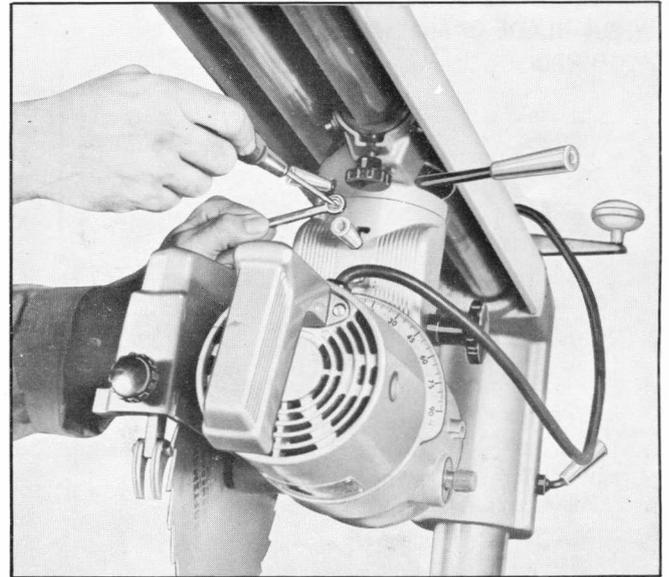
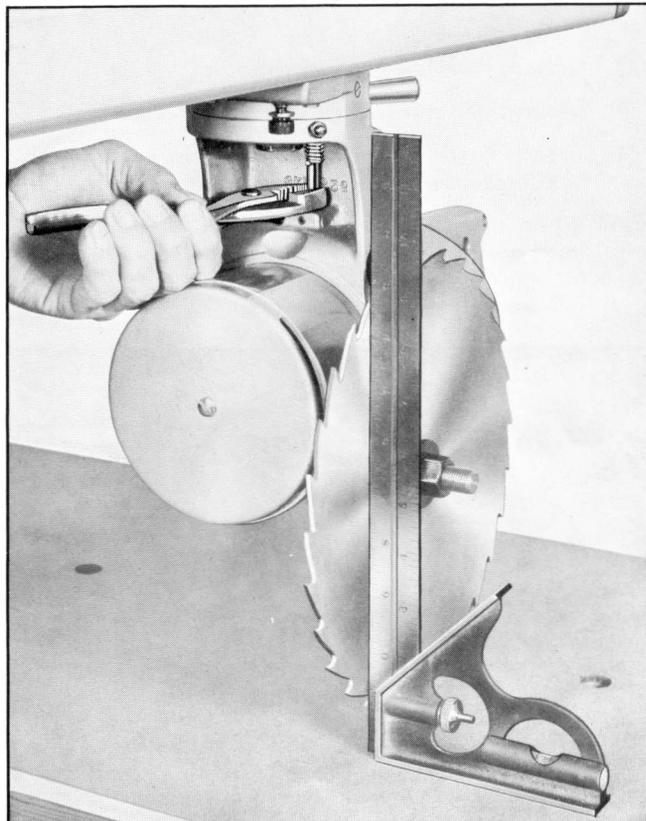

Fig. 19
Fig. 22
2. The one screw in fig. 19, is used. Unlock hex nut in fig. 19.
An alternate method for adjusting for heeling is shown in fig. 20. Place the square against the fence and hold against the saw blade. Make sure the edge of square is not touching the tooth points. Adjust the screw as shown in fig. 19 until blade is flush with square. If this method is used the blade must be squared to the table top as shown in fig. 22.
1. Place combination square on table and against blade as shown in fig. 22.
3. Using a pair of pliers, turn knurled head in fig. 22, while holding motor against stop in a clockwise direction by use of the pistol grip handle. The knurled head can be turned in either direction to bring the blade square to table top.